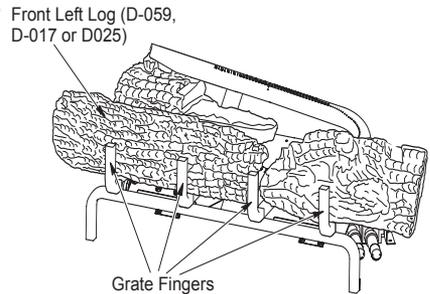

Figure 25 - Installing Front Left Log
3. Find the front left log (VFGT24 inch models: D-059 or VTGF30 inch models: D-017 or VFGT36 inch models: D-025). See Figures 25, 25A, and 25B. The log has a rectangular stand off on the bottom that fits against the lip on the black metal base